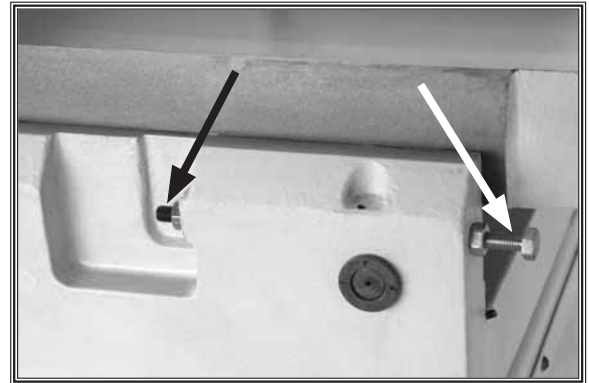

Figure 43. Table positive stop bolts.
3. Loosen the outfeed table lock located at the front of the machine, and loosen the jam nuts and adjustment bolts located at the back of the machine (see **Figure 43**).
4. Loosen the outfeed table lock located at the front of the machine, and loosen the jam nuts and positive stop bolts located at the back of the machine (see Figure 43).
6. Tighten the outfeed table lock located at the front of the machine, and tighten the positive stop bolts and jam nuts located at the back of the machine (see Figure 43).